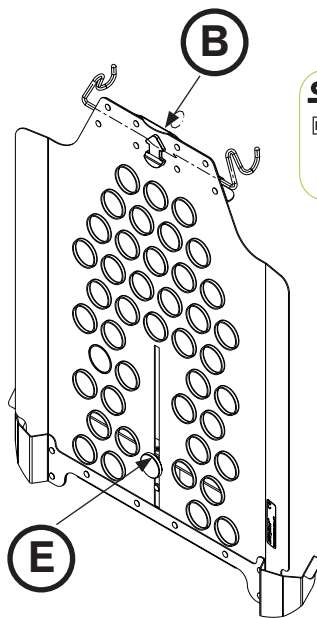

Figure 56: Upright X-Ray Cassette Holder
2. Position the upright cassette holder, placing the lower retainer guides (A) under the fowler weldment bar (Figure 56).
4. Insert and remove cassettes from the upright cassette holder from either side of the cassette holder or pull up on the yellow arrow to release the wire latch (B) on the upright cassette holder, releasing the upright cassette holder from the fowler weldment, and then position the cassette in the holder.
1. With the fowler raised, pull up on the yellow arrow (B) to release the wire latch (C) on the upright cassette holder from the fowler weldment bar (Figure 56).